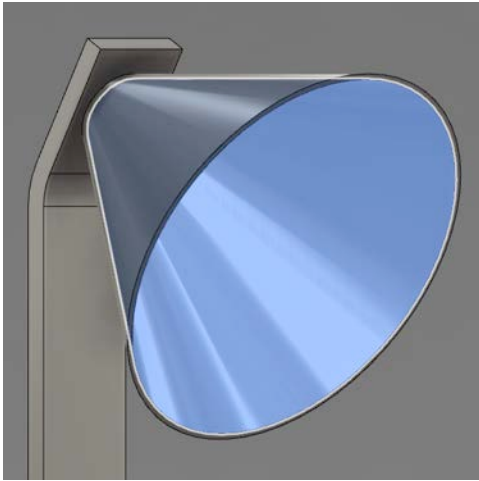

Fig. L14
15. Go to Modify>Shell to core out the lamp's shade (Fig.L14).